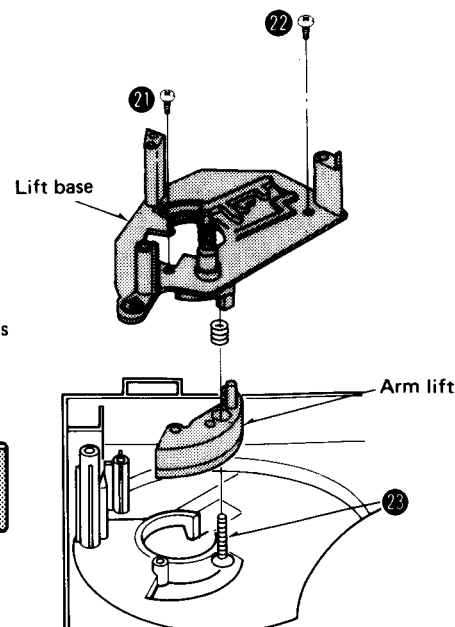

Fig. 6
2. Remove the 2 setscrews (Fig. 6 : 21, 22) of the lift base. Then the lift base can be removed.
3. Remove the screw (Fig. 6 : 23) of the arm lift. Then the arm lift can be removed.